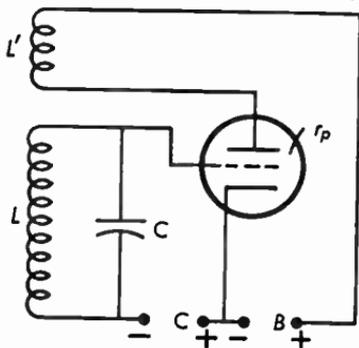

Fig. 6.05 Armstrong oscillator.
**6.05** The equation for the resonant frequency of the oscillator of Figure 6.05 is